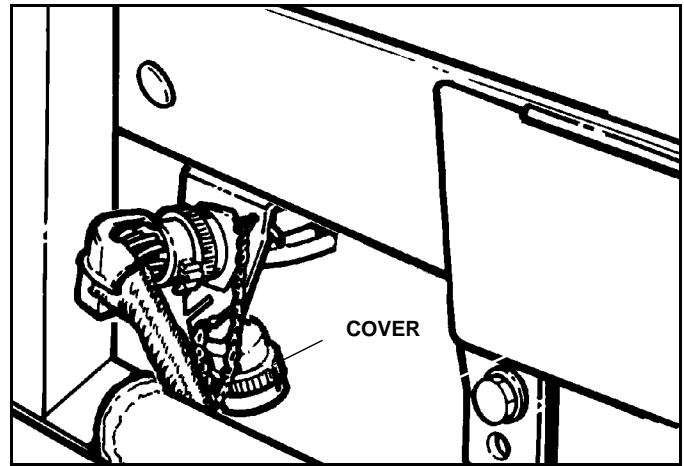

Figure 1-2
4. Remove the protective cover from the vehicle end of the wiring harness by rotating it counterclockwise and store it as shown in Figure 1-2, if it is chained to the harness Plug Bracket. If Plug is not chained to the bracket store the cover in the vehicle for future use.